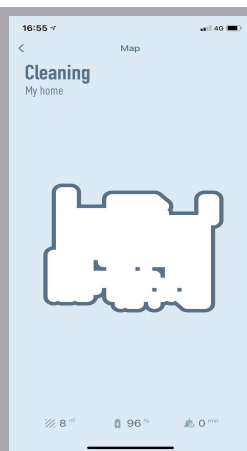

Fig. 20
- Users can check the current cleaning map (Fig.20).